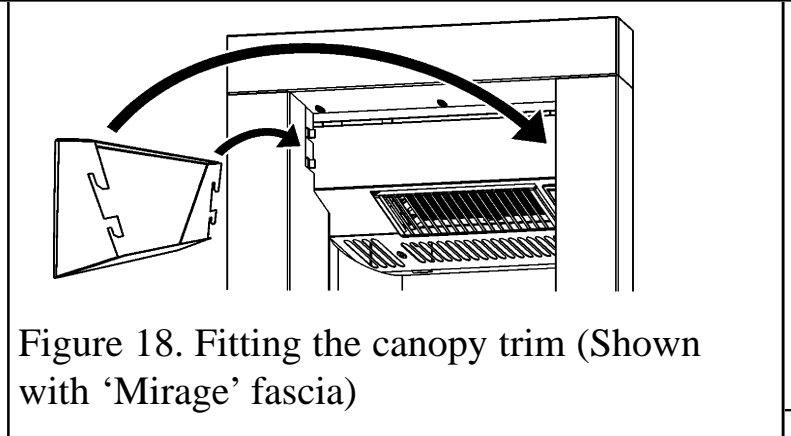

Figure 18. Fitting the canopy trim (Shown with 'Mirage' fascia)
2. Supplied in the fascia pack is a canopy trim. Hang this at the top of the fascia (See figure 18).
1. Supplied in the fascia pack is a canopy trim. Hang this at the top of the fascia (See figure 18).